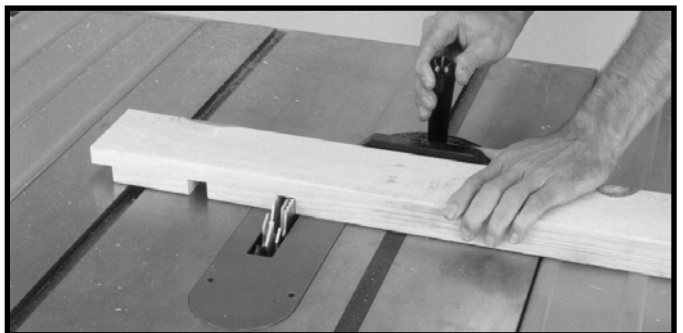

Fig. 48
3. Fig. 48, shows a typical dado operation using the miter gage as a guide.